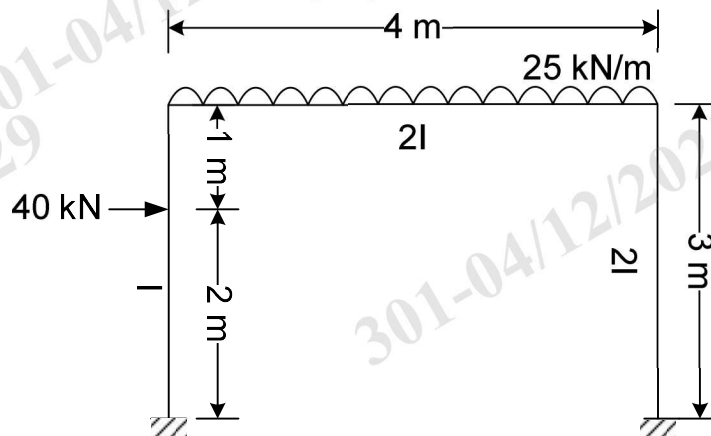

Figure 3
Q3 Analyze the portal frame in Figure 3 using slope deflection method. E constant. (16)